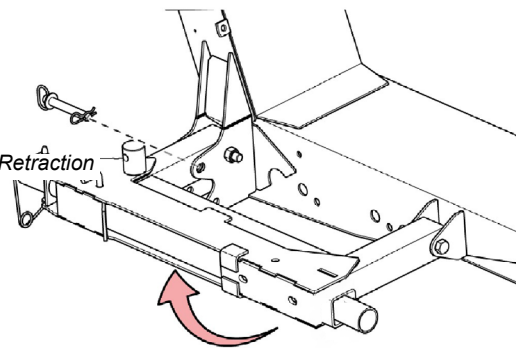

Fig. 67 - Axle Tube Retraction
4. Remove the axle jack and place in a secure storage location. (Or store it on the axel as shown in Fig 67.)